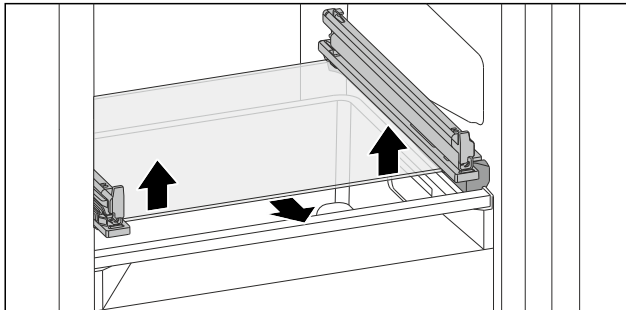

Fig. 108 Tilting drawer glass shelf
- Push glass shelf upwards from below on both sides. (see Fig. 108)